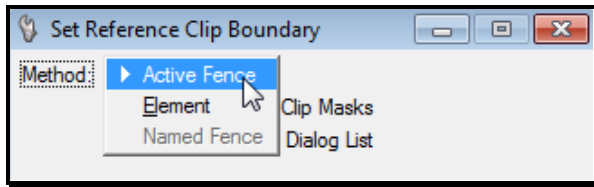

Figure 7-5: Set the Clip Boundary Tool Settings dialog
- 🎵 If you aren't seeing the same thing you saw in your *layout.dgn*, place a fence around the border and select **File > Reference (DOT) > Clip > Boundary > All**. Set the *Method* to **Active Fence**, place a *check* in the *Use References Dialog List* and click in the view window (Figure 7-5).